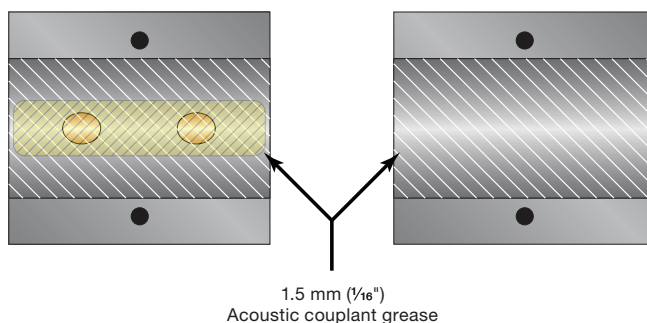

Fig. 12 Application of acoustic couplant – UTT10-015S to UTT10-040S transducers
- 1) Apply a thin coating of acoustic coupling grease to both halves of the transducer housing where the housing will contact the pipe. See *Fig. 12*.